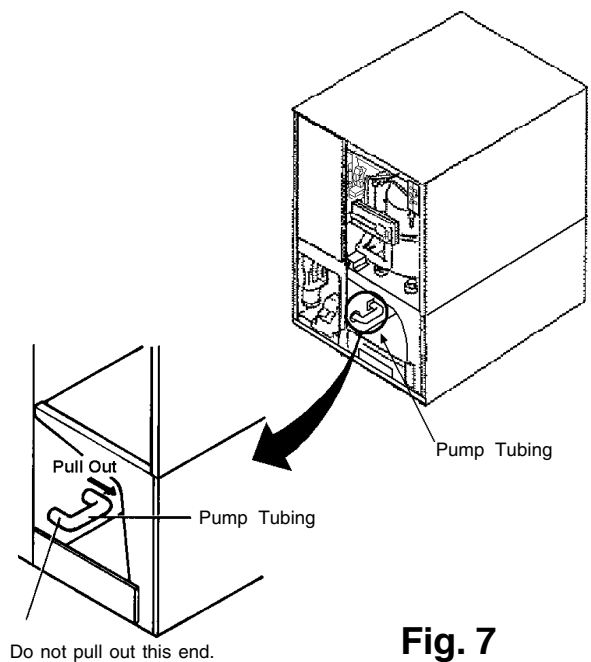

Fig. 7
- 4) Remove the back end of the Pump Tubing, and drain the Water Tank. See Fig. 7.
- 5) Remove the back end of the Pump Tubing. Drain the Water Tank. Replace the Pump Tubing in its correct position. See Fig. 7.